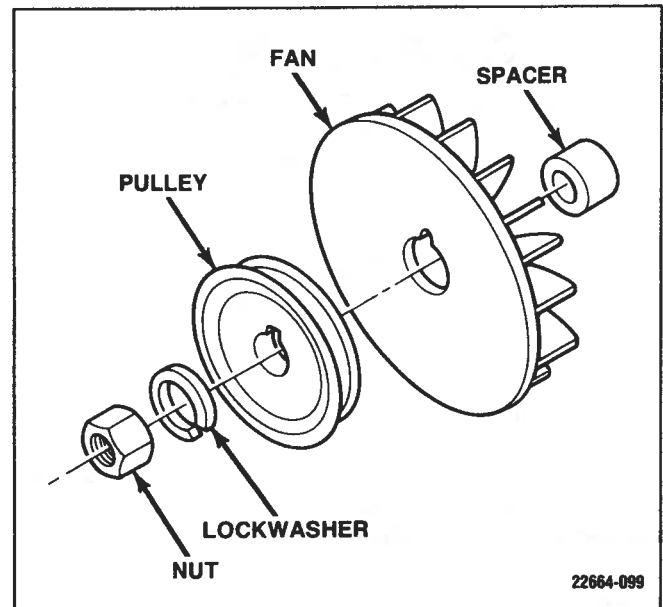

Figure 6-125. Pulley And Fan Components
12. Remove the pulley nut, lockwasher, pulley, fan, and spacer. (Figure 6-125)